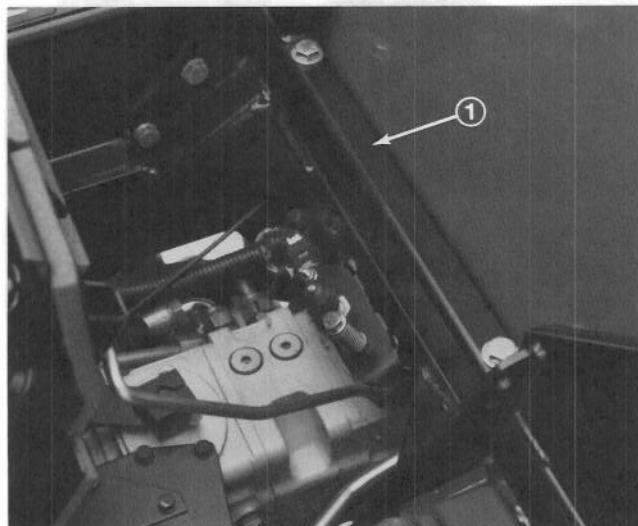

Figure 9
2. Lower roll bar onto frame, aligning mounting holes as shown in fig. 9.
3. Secure each side of roll bar to frame with a 1/2 x 13 - 3/4" lg. capscrews and lockwashers. Secure back of roll bar to frame with (2) 1/2 x 13 - 6-1/2" lg. capscrews, flatwashers (1-1/16" O.D.) and 1/2 - 13 locknuts. Tighten all fasteners securely.